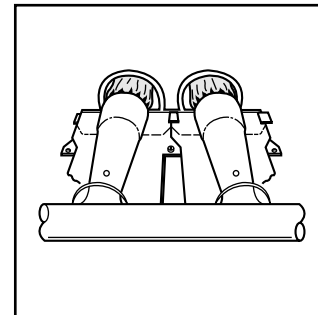

Fig. 5 - Burner Flame
6. The burner flames are in good adjustment. (See Fig. 5.)